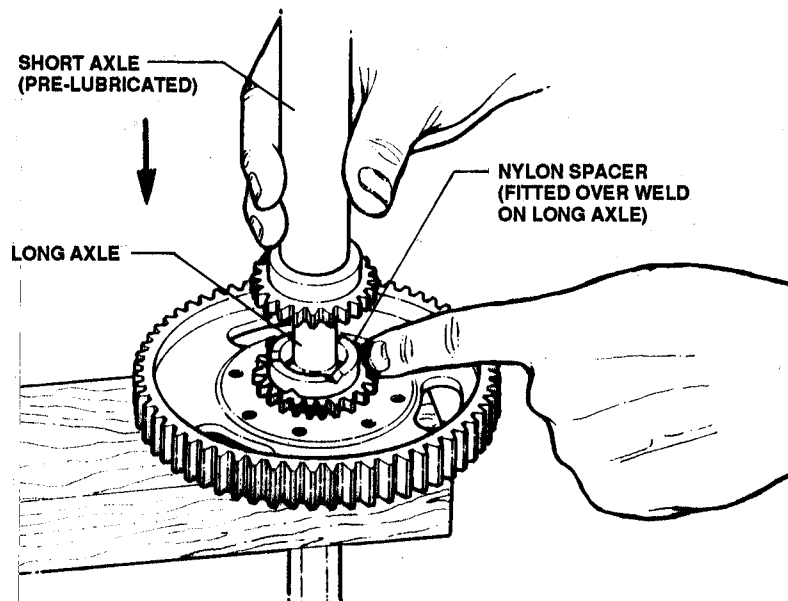

FIGURE 4.28
6. Install short axle over long axle, insuring that the nylon spacer fits down over the weld of the long axle. See Figure 4.28.